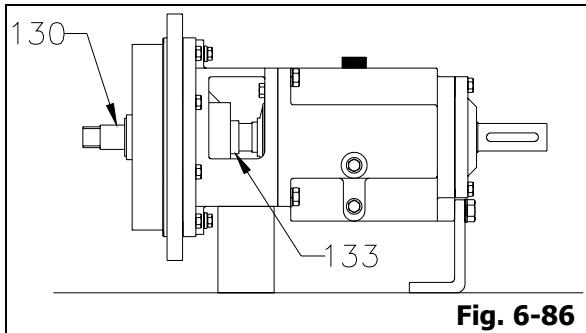

Fig. 6-86
- Install shaft sleeve (133) assembly carefully onto shaft (130) (Fig. 6-86).